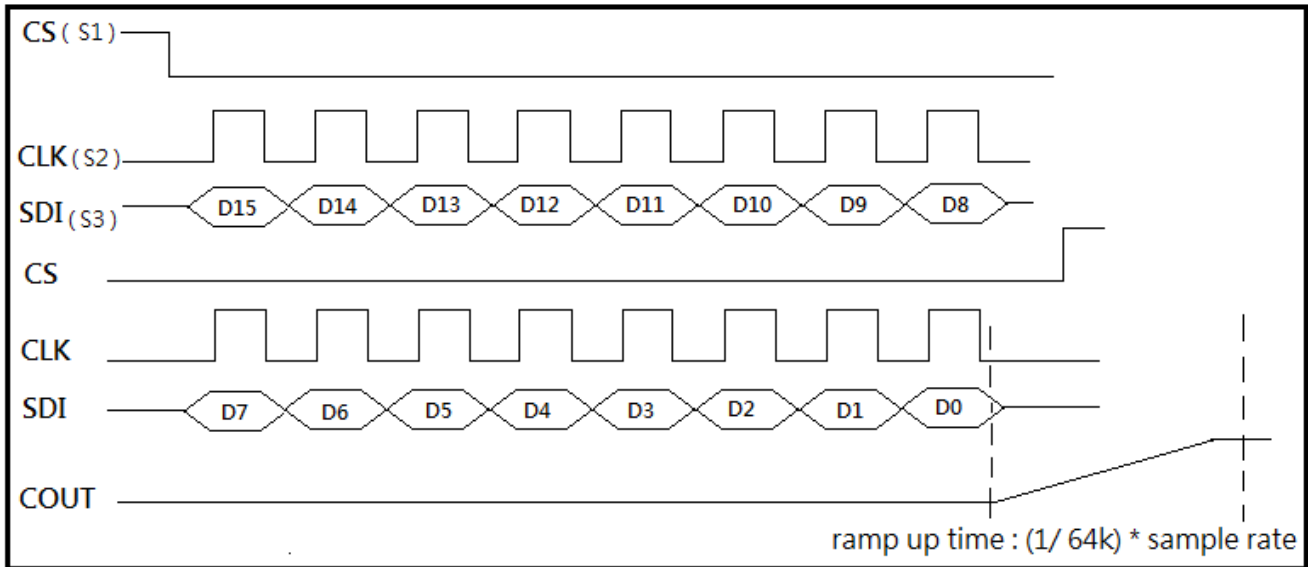

Fig. 9 Power-up command timing
4. Power up with RAMP-UP (PU2:A4xxh) or without RAMP-UP (PU1:A8xxh) (Fig. 9)